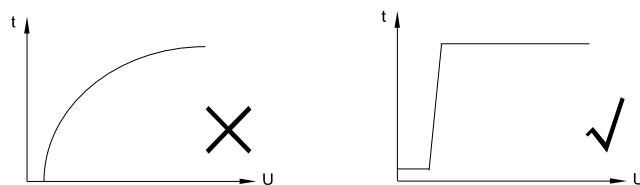

Figure 3
3.7 When testing the operating voltage of the relay with built-in energy-saving board, please avoid slowly rising voltage. Please drive the coil through fast rising edge (step power supply mode) (as shown in Figure 3), otherwise the electric appliance may not work.